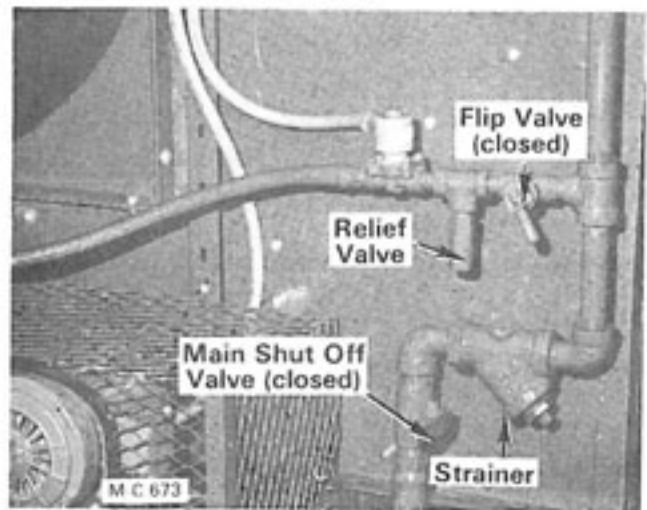

Figure 13
2. **LP Gas** - Close the liquid line flip valve for each burner (handle down), see Figure 13.
1. LP Gas - Open the supply valve at the tank, the hand valve at the LP Gas inlet hose and open (lift up) the liquid line flip valve on each burner, see Figure 13. The flip valve is open when the handle is 90° to the piping.